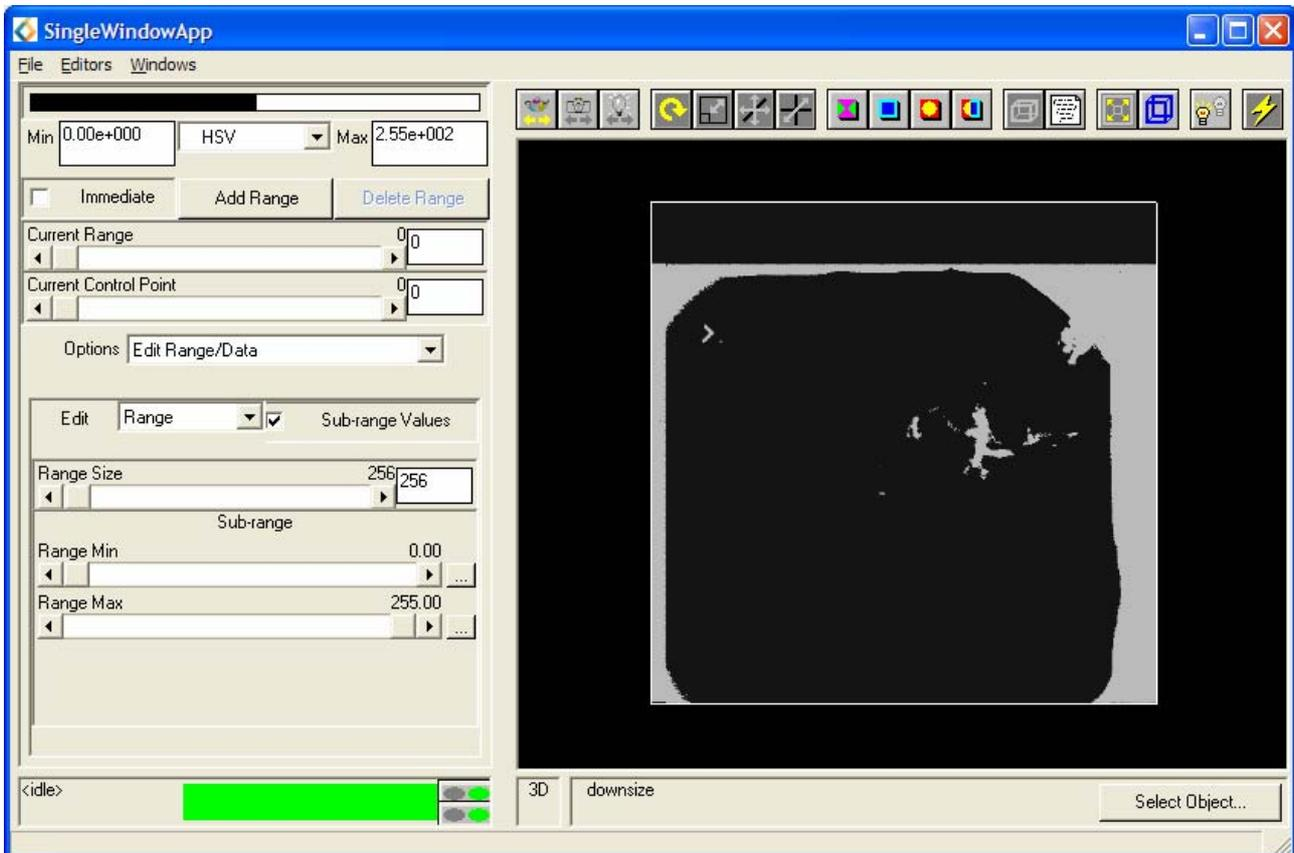

Figure 3.7: Binary Black and White Datamap
- Change the **Colour Mapping Range** from **Linear** to **Constant**. A binary map should be obtained as shown in Figure 3.7.